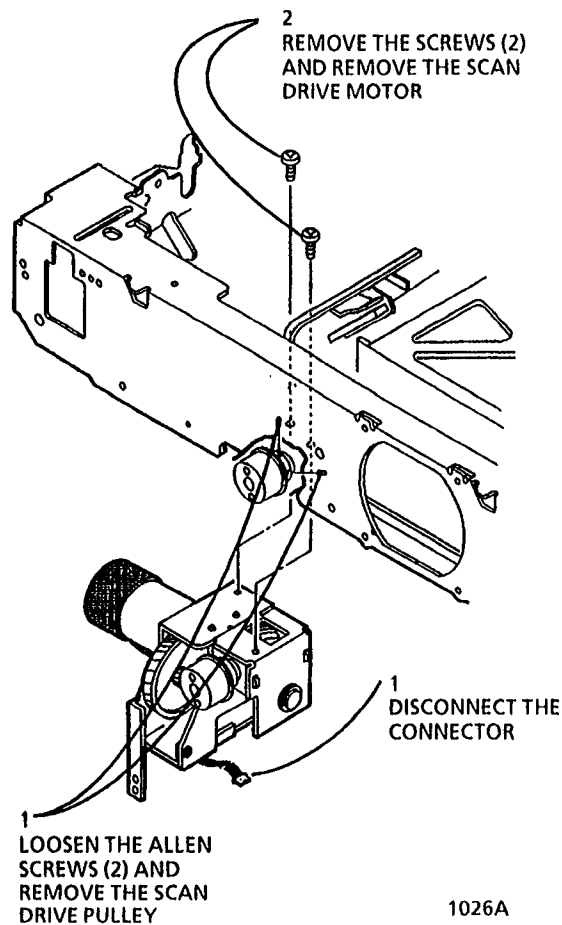

Figure 1. Removing the Scan Drive Motor (MOT4)
3. (Figure 1): Tape the optics cable in place on the drive pulley and remove the drive pulley.
4. (Figure 1): Remove the Scan Drive Motor.